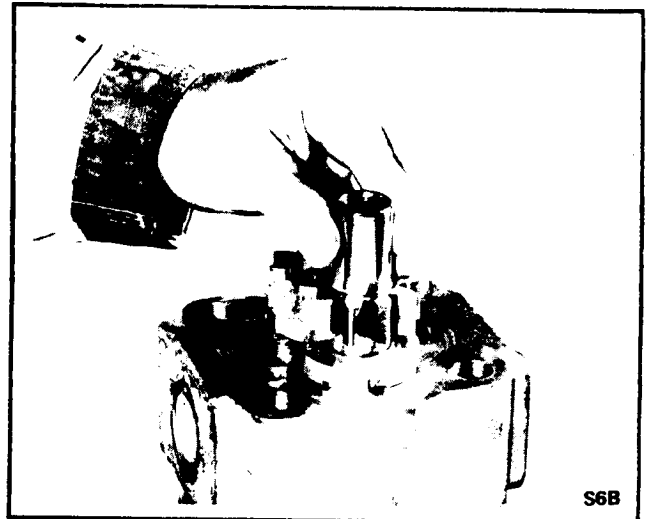

Fig. 7 - Removing Drive and Driven Gears
5. Remove the drive and driven gears. Keep the gears together because they are a matched set. Take care not to damage the machined surfaces of the gears.\* See Fig. 7.